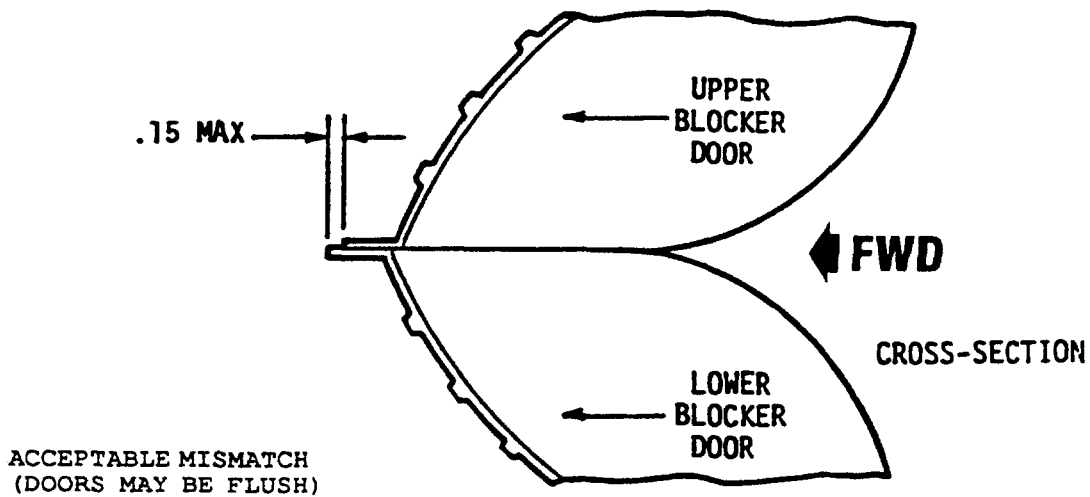
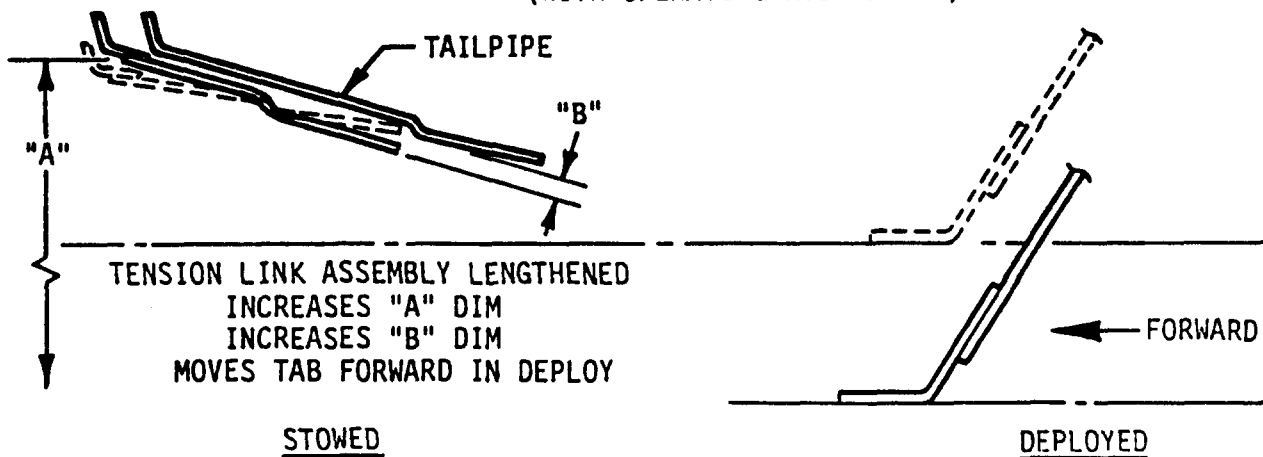

Figure 205 - Blocker Door Mating Requirements
Figure 207 - Blocker Door Positioning Adjustment Guide
- (5) Remove clamps and vertical prop and close the blocker doors by simultaneous force application on each rack. Check that doors mate within the limits defined in (Figure 205).
- (6) Apply simultaneous application of approximately five pound forward pulling force on each of the two racks. Assure the blocker doors return to the stowed position.
- (7) If any of the tests are not satisfactory, refer to the following procedures (B) for appropriate solutions.
- (12) Check that simultaneous application of a five pound force in either the aft (deploy) or forward (stow) direction will rotate the doors to the full deploy or stow position. Where a force greater than five pounds is required to cycle the blocker doors:
- (13) Check that the "lips" on the forward edge of the blocker doors do not contact the tension rods. Remove material from the door "lips" as required to obtain clearance.
- (14) Check and adjust the door lip mismatch as follows:
- (a) Check the door mismatch shown in (Figure 205). If the mismatch is greater than 0.15 inch, the linkage must be adjusted. Adjustment of the linkage may effect the clearances and/or the beam window alignment. Use adjustment guide per Figure 207 and the following procedures to correct a door mismatch.